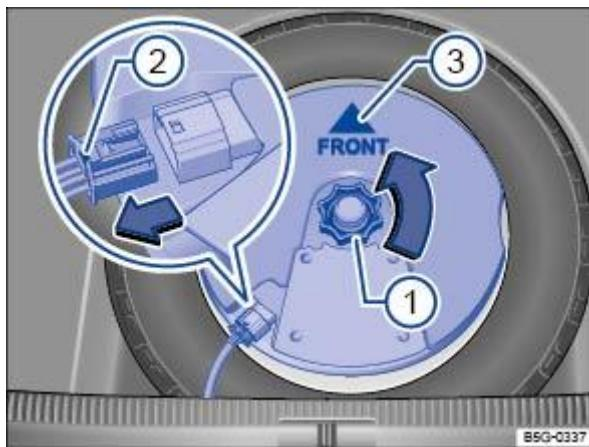

Fig. 143 In the luggage compartment: removing subwoofer (type 2).
Unscrew handwheel ⇒ Fig. 143① in direction of arrow.
To unlock the connector, press the catch on the end of the plug ⇒ Fig. 143② .
Place the subwoofer carefully in the rim base. The tip of the arrow symbol FRONT ⇒ Fig. 143③ on the subwoofer must face forwards.
Plug in connector ⇒ Fig. 143② until the catch audibly engages.
Screw the handwheel ⇒ Fig. 143① onto the threaded pin in the opposite direction to the arrow until the subwoofer is properly secured.